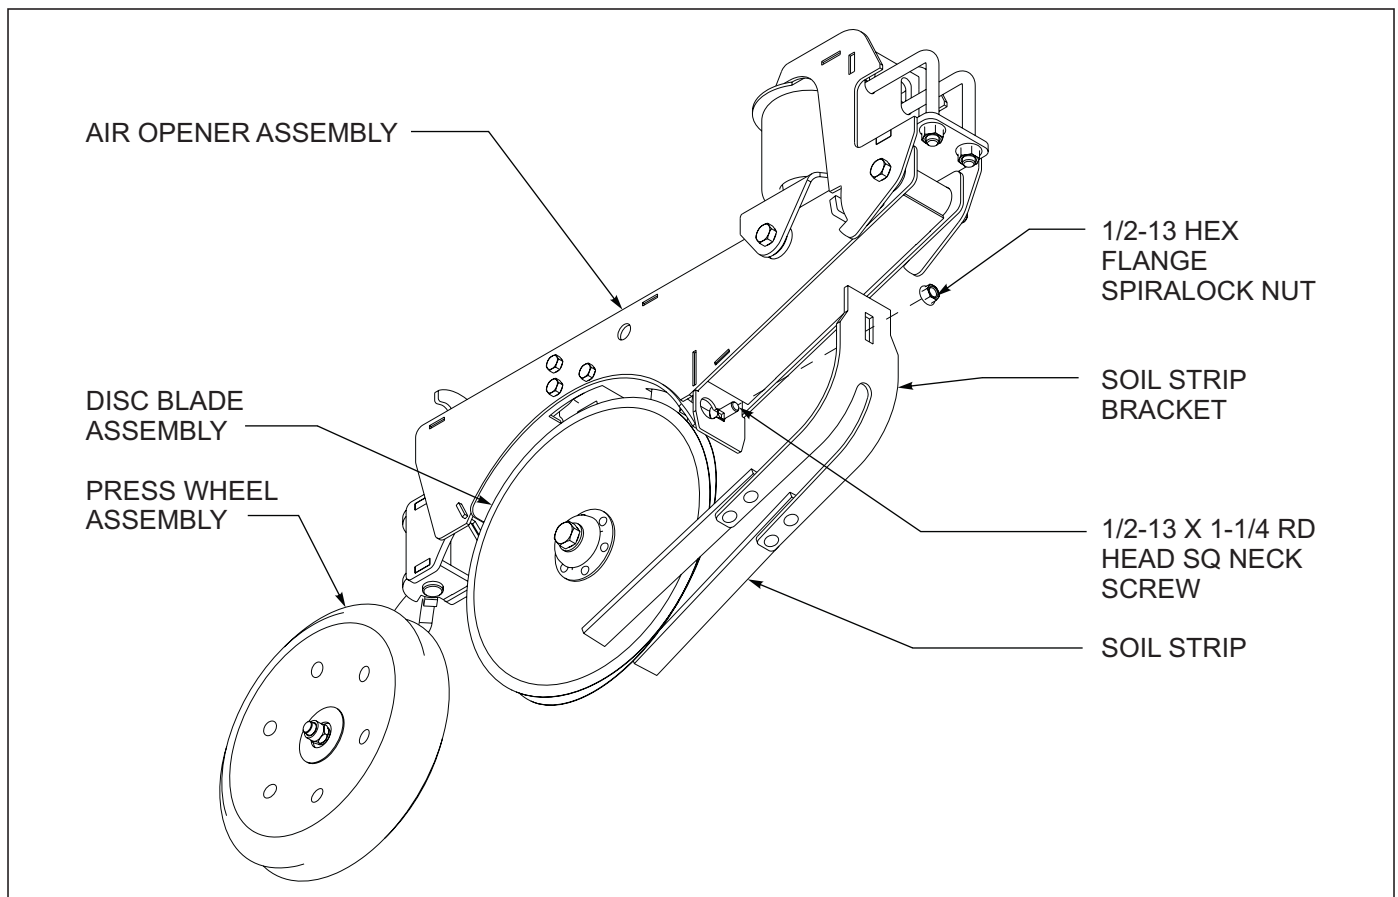

Figure 4-26: Opener Soil Strip Adjustment
4. To adjust the soil strip, loosen the 1/2-13 hex flange spirallock nut at the front of the soil strip bracket *See Figure 4-26*. The bracket may be adjusted up or down to the desired height and side to side to center on the opener blades. Retighten the 1/2-13 hex flange spirallock nut.